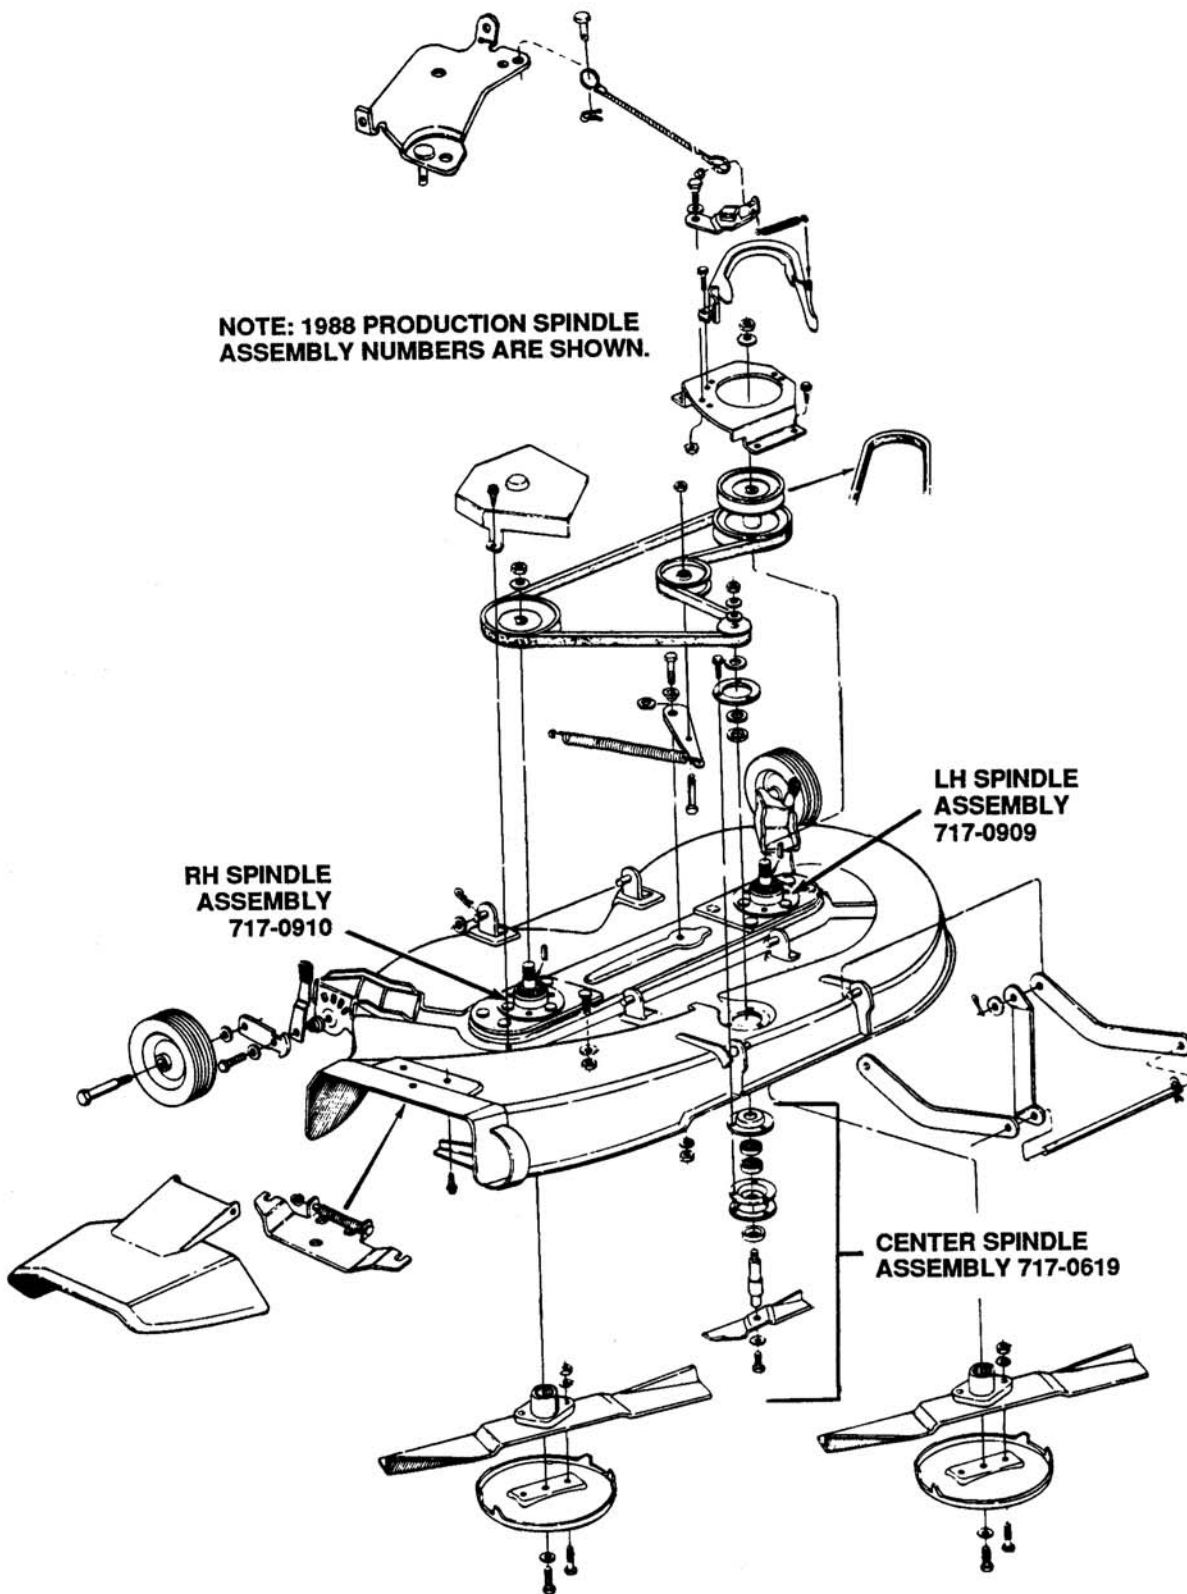

Figure 8-17. Model 935 44-Inch Side Discharge Deck
8.3. MODEL 194-935 44-INCH SIDE DISCHARGE MOWING DECK (See Figure 8-17).